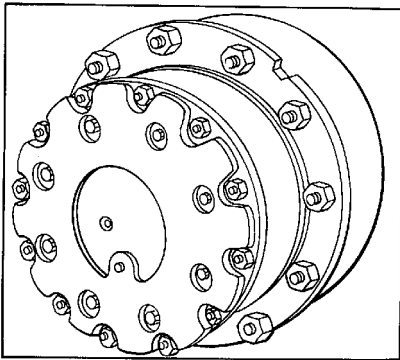

Figure 3.
1. Remove the planetary wheel cover capscrews (refer to Fig. 3).